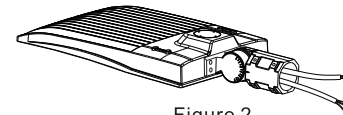

Figure 2
Step 2: Install the mounting on the fixture. (Figure 2)